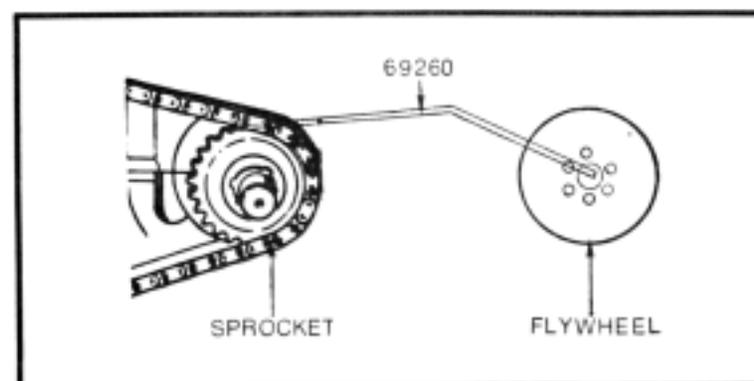

Fig. 6-22. Peugeot special tool No. 69260 is a convenience when removing the engine.
1. Insert special tool No. 69260 into the flywheel hub and one of the sprocket teeth (Fig. 6-22).